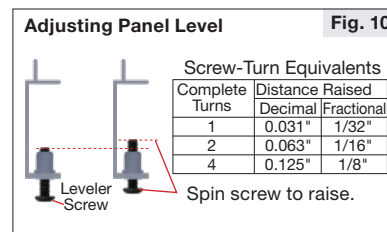

Fig. 10
- If panels are out of level, remove affected panels and spin the Leveler Screws of the Wall Brackets to compensate, see chart in Fig. 10. If panels are not flush near the tops, use the U Shims as shown in Fig 11 to pad them out.